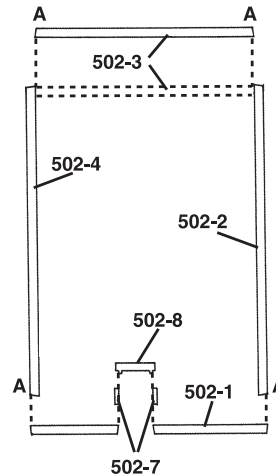

Fig. 1
Wall edges are angled (draft angles) to make removal from mold easier. Draft angles need to be sanded square to allow for proper assembly and a flush fit with adjoining Walls. To square edges, thumbtack a piece of 120-grit sandpaper to a board and draw Wall back and forth evenly on sandpaper until edge is square and level (Fig. 2). Edges to be sanded squared do not have brick detail and are marked "A" (Fig. 1).
- Glue Side Panels to Entry Door (Fig. 1 and 4).
- Glue Front Door Assembly to back of Entry Wall (502-1) (Fig. 1 and 4).